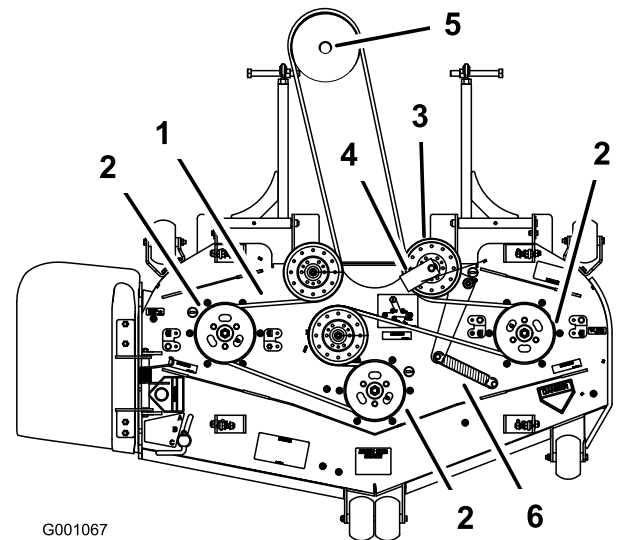

Figure 66
6. Install the new belt around the mower pulleys and the gearbox pulley under the engine (Figure 66).
7. Install the belt guide on the spring loaded idler at a 45 degree angle as shown in Figure 66. Torque the bolt to 27 to 33 ft-lb (37 to 45 N-m).
8. Install the idler spring to the two posts (Figure 66).